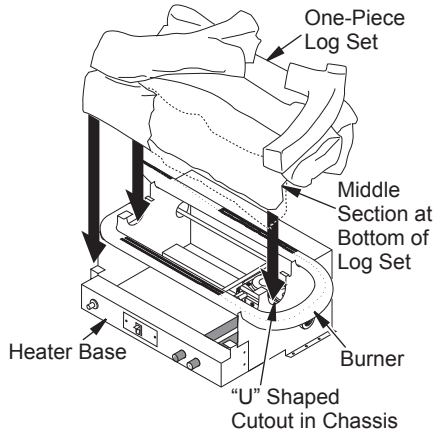
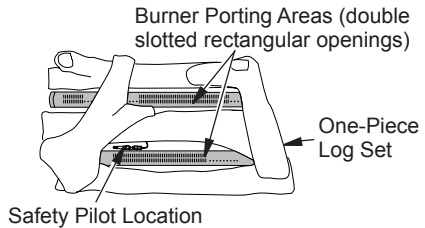

Figure 12 - Installing One-Piece Stove Log Set
Figure 13 - Top View of One-Piece Log Set on Gas Log Heater
4. Set one-piece log on heater base as shown in Figure 12. Make sure middle section at bottom of log is seated into "U" shaped cutout in center of heater base. **IMPORTANT:** Make sure log does not cover any burner ports and does not touch the stove cavity (see Figure 13).
- With control knob pressed in, press and release ignitor button. This will light pilot. The pilot is attached to the front burner (see Figure 13, page 11). If needed, keep pressing ignitor button until pilot lights.